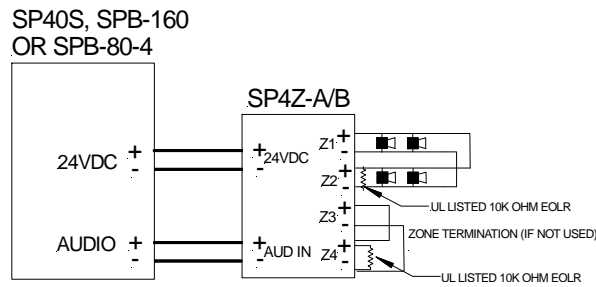

Figure 6C: Power Limited For Supervised Class A Wiring.
1. See Figures 6C and 6D for wiring diagram.